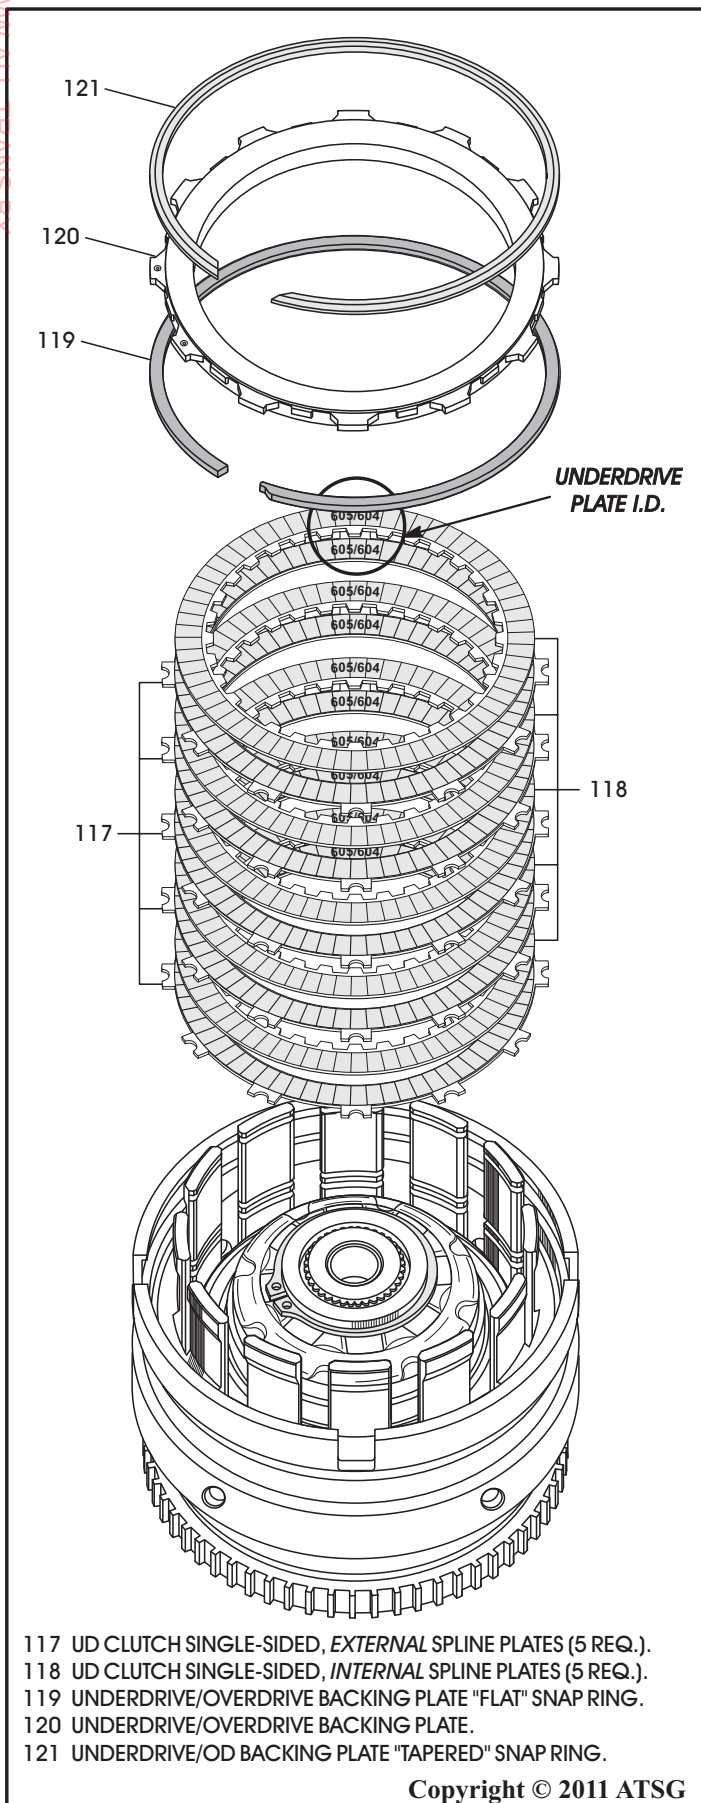

Figure 101
Special Note: The 68RFE underdrive plates, both inside and outside spline plates, can be identified by numbers "605/604" laser-burnt into friction material facings (See Figure 101).
21. Install the "single-sided" underdrive clutch pack beginning with an outside spline plate with the lining facing up and alternating with the inside spline plates with lining facing up, as shown in Figure 101 (5 of each are required).
22. Install the underdrive/overdrive backing plate lower *flat* snap ring into the housing in the lower groove, as shown in Figure 101.
23. Install the underdrive/overdrive backing plate into the input clutch retainer, with the big step facing down, as shown in Figure 101.